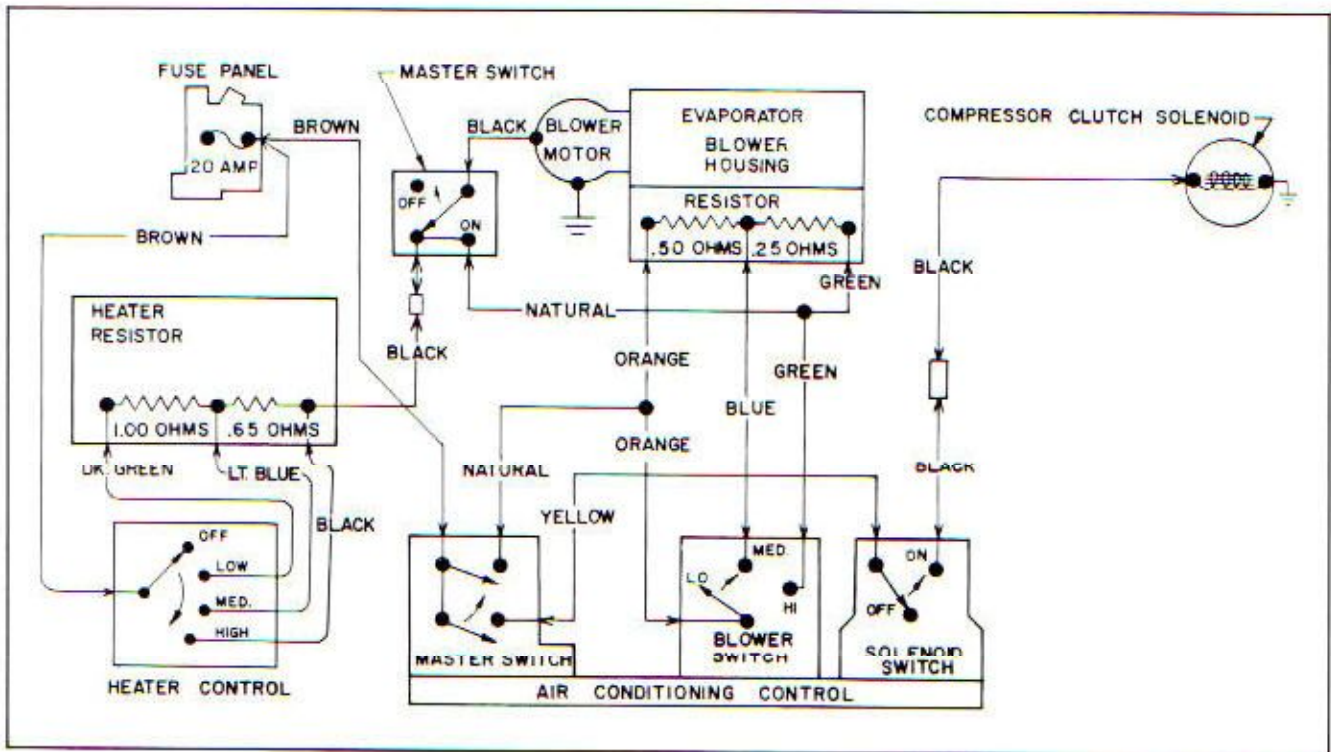

Fig. 16-39 Schematic Wiring Diagram (Standard Heater with Air Conditioning)
1. Be sure cable housing is flush with rear edge of clamp on control. (Fig. 16-39)